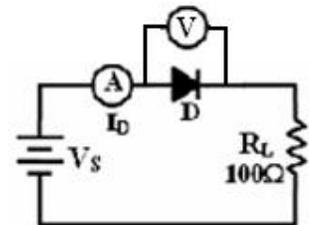

Figure 7
- 1- Construct the circuit shown in Figure 7. (Make sure your diode has the correct polarity).